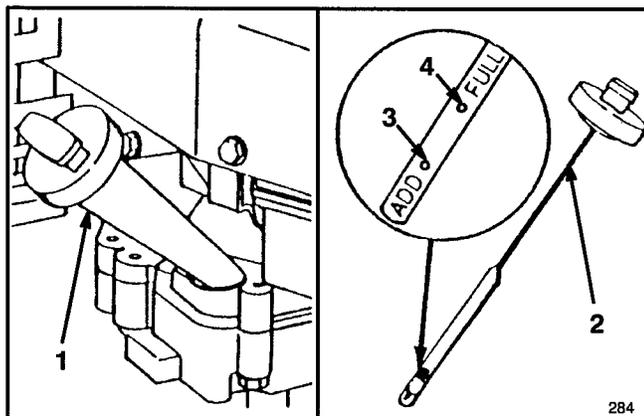

Figure 6
Fill crankcase with SAE 30 oil until oil level reaches FULL mark on dipstick as shown in Figure 6. 10W30 oil may be substituted if SAE 30 oil is not available. The maximum crankcase capacity is 25 ounces (0.75 liters) of oil. Use any high quality detergent oil having the American Petroleum Institute (API) "service classification" — SF, SG or SH.
Before each use, ensure oil level is between ADD and FULL marks (Fig. 6). Add oil if level is low.
3. Wipe dipstick and insert it into filler neck. Rotate cap 1/4 turn. Then remove dipstick and check level of oil (Fig. 6). If level is low, add only enough oil to raise level to FULL mark on dipstick. **DO NOT FILL ABOVE**
1. **CHECK OIL LEVEL**—Maintain oil level between ADD and FULL range as shown on dipstick (Fig. 6).